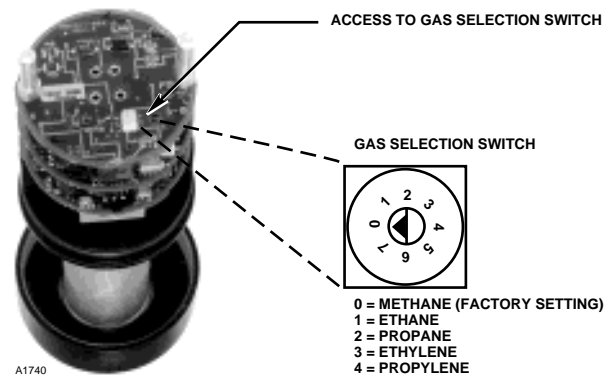

Figure 13—Gas Selection Switch Location at the Bottom of the Electronics Assembly
- Using a small screwdriver, rotate the gas selection switch from position 0 (methane) to the desired position. Refer to Figure 13. Ensure that the tip of the arrow on the switch lines up with the position selected.